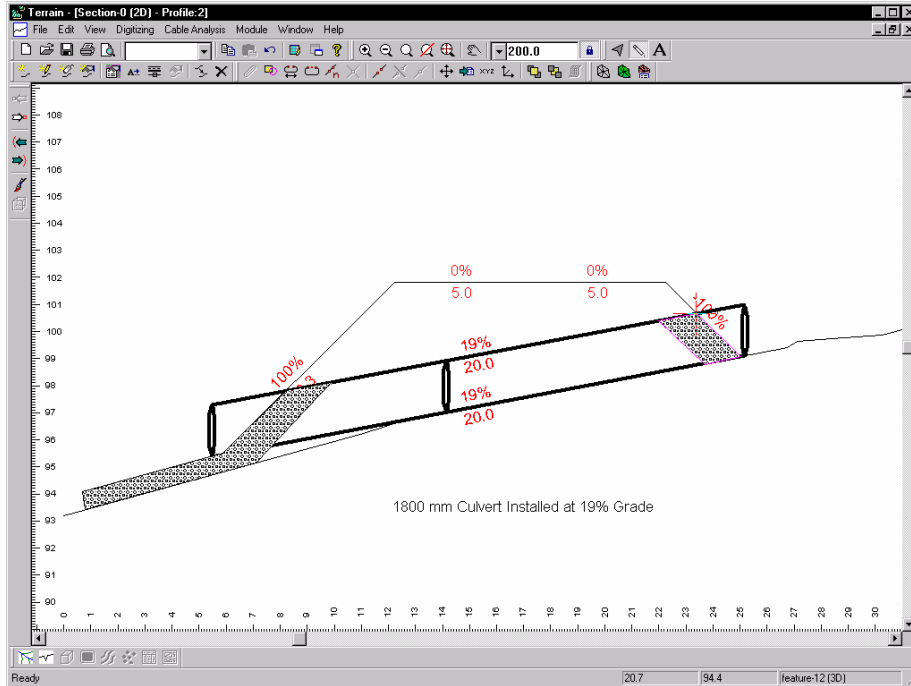

Figure 9.17: Culvert Cross Section with Annotation and Hatching
39. Press the *Draw New Feature*  button and draw a polygon for the rock armor on the outlet side (see Figure 9.17).